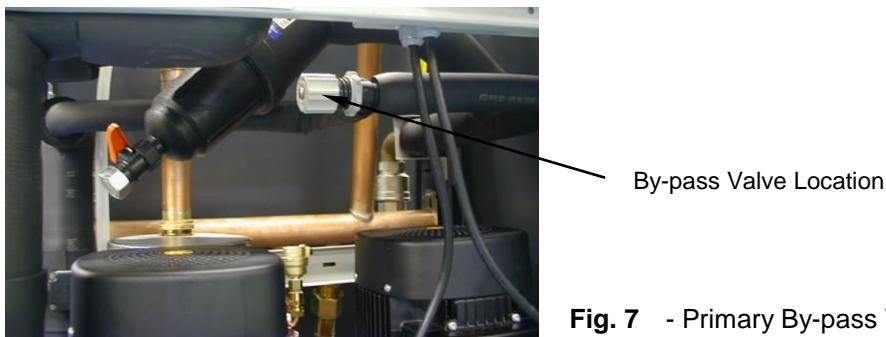

Fig. 7 - Primary By-pass Valve
Set the controller to 'Manual Control' as described in **Section 5.9** and adjust Valve 1 (screen ref. 4-4-2-1 under 'Heat Exchanger') to 100%, this will force Valve 1 to open fully. Next go back to the 'Status' mode of the controller and scroll to the 'Primary Flow' screen (screen ref. 3-8) to see the actual primary flow rate. Use the primary return ball valve (see Fig. 4) to approximately regulate the flow to the required setting. Then use the primary by-pass valve shown in Fig. 7 to give a finer adjustment of the flow. Set Valve 1 setting back to 0% and set controller mode back to 'Automatic' operation.